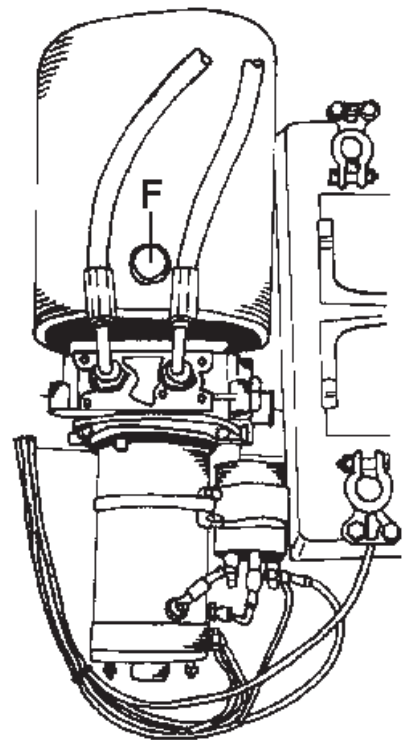

Fig.10
- Unscrew the cap "F" (Fig.10) of the hydraulic control unit tank.